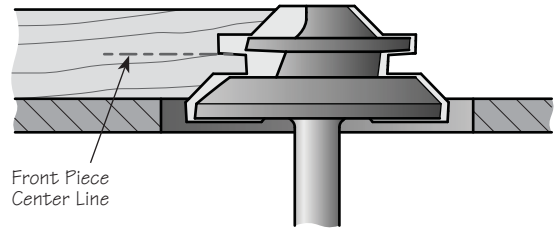

Figure 2: Setting the bit height.
2. Set the bit height so that the middle of the locking portion is aligned with the center line of the front piece, as shown in **Figure 2**. This can be set by eye or by setting the top of the bit above the router table by half the stock thickness plus 0.27" for the 1 1/2" bit (16J75.08/18J75.08) or plus 0.41" for the 1 3/4" bit (16J75.62/18J75.62).